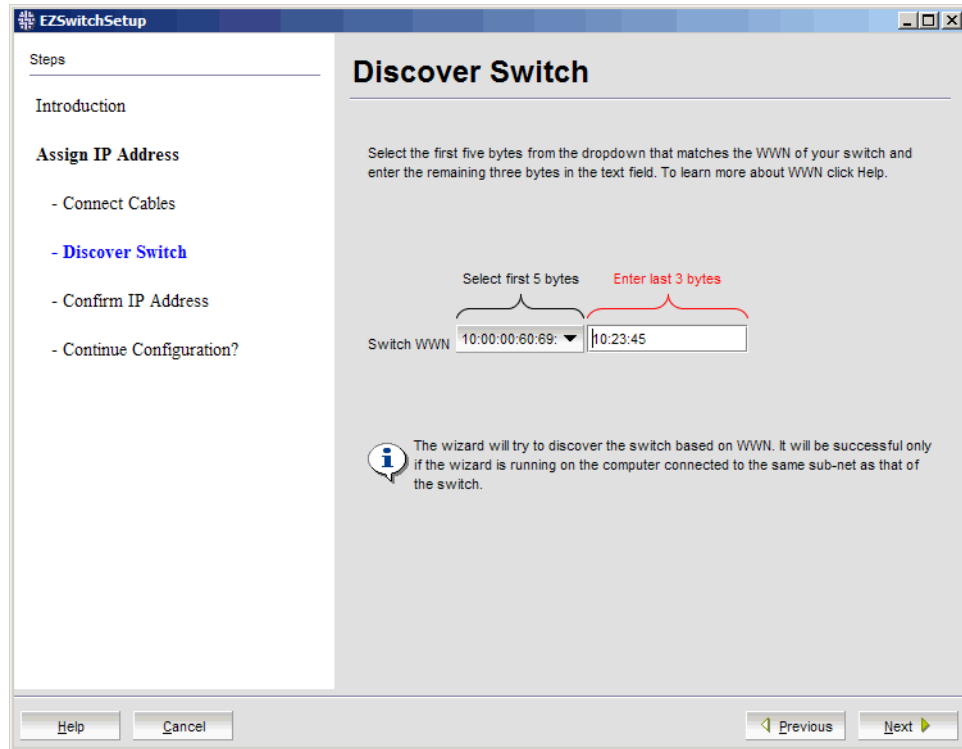

FIGURE 7 First Discover Switch window
If you are using an Ethernet LAN connection, a **Discover Switch** window is displayed (Figure 7). Proceed to “Discovering the switch.”
2. From the **Switch WWN** list (Figure 7), choose the switch’s WWN prefix numbers and then enter the last six alphanumeric digits of your switch’s WWN. Each two alphanumeric digits must be separated by a colon.
- If you selected **Discover another switch on the same subnet for IP assignment only**, the Discover Switch window displays (Figure 7 on page 12). Go to “Discovering the switch” on page 12 and provide the WWN for the next switch.